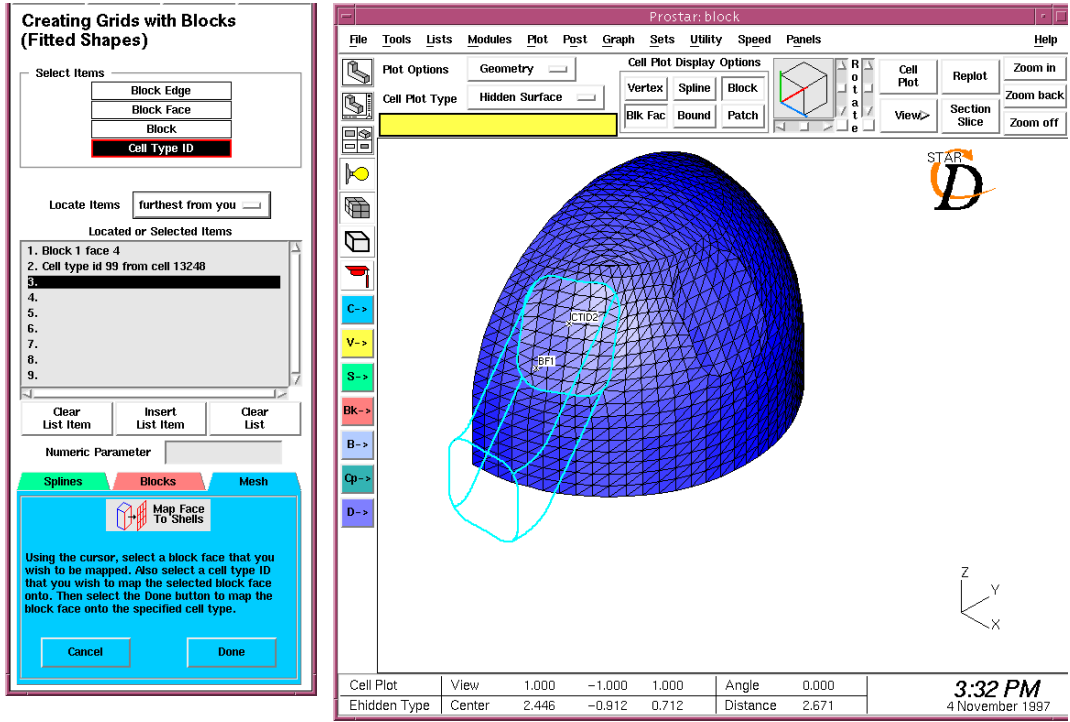

Figure 3-59 Mapping block faces to shells
- When satisfied with your selections, click the **Done** button to perform the mapping (see Figure 3-59)